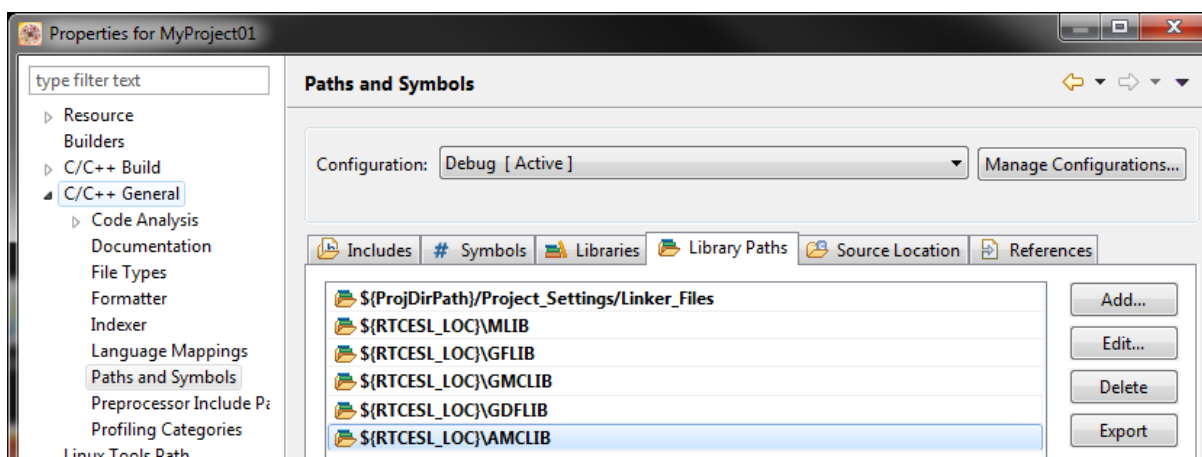

Figure 1-20. Library paths
- In the right-hand dialog, select the Library Paths tab. See Figure 1-20.
14. Click OK, and the paths will be visible in the list. See Figure 1-20.